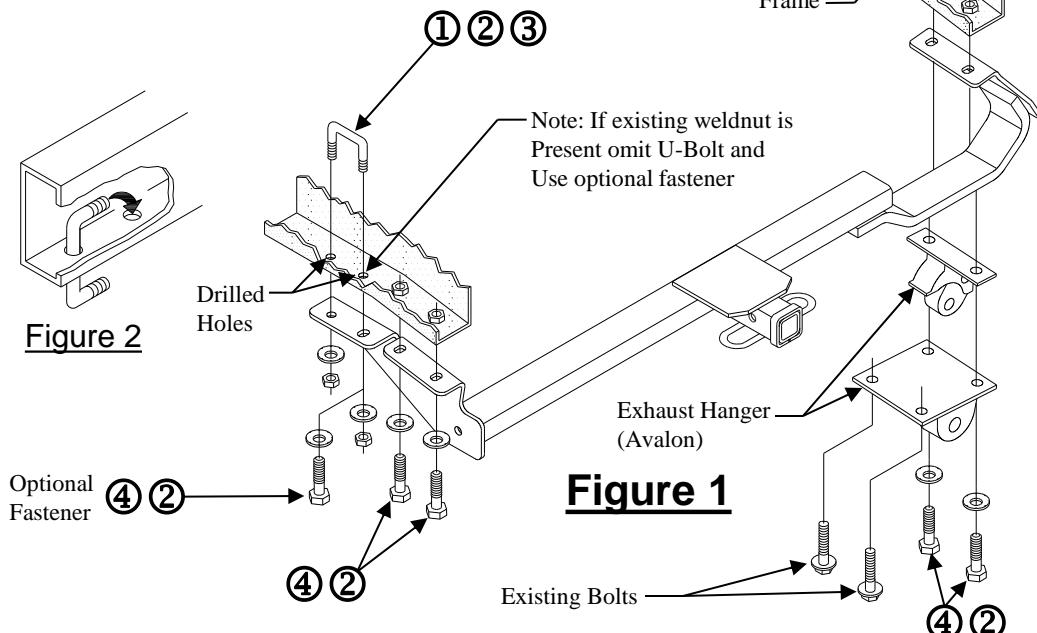

Figure 1
- Raise hitch into position and install (4) M10 bolts and conical toothed washers as shown in Figure 1.
- For (2) bolt exhaust hanger configuration, install (2) M10 bolts and conical toothed washers supplied with hitch as shown in Figure 1.
- For (4) bolt exhaust hanger configuration, install (2) M10 existing bolts (retained in Step 1) and (2) M10 bolts and conical toothed washers supplied with hitch as shown in Figure 1.